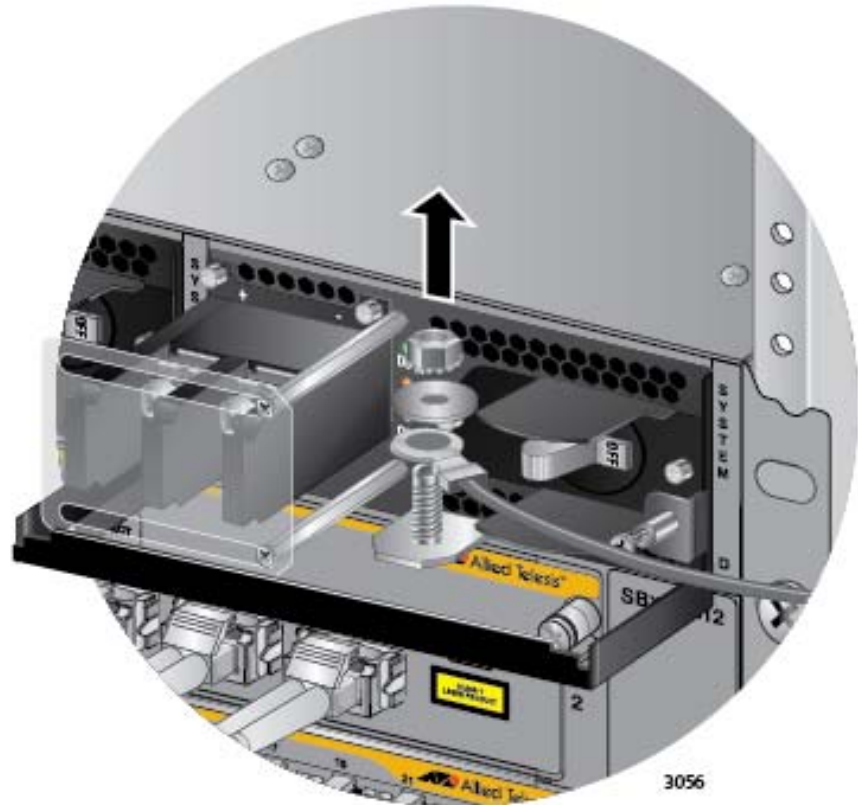

Figure 164. Removing the Grounding Wire
9. Use an 8 mm wrench to remove the grounding wire from the grounding post. Refer to Figure 164 on page 264.